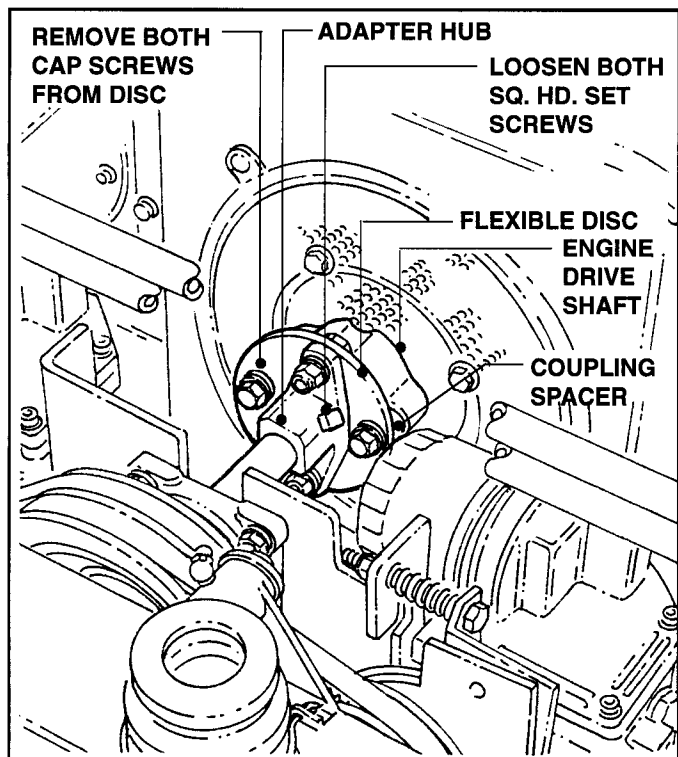

FIGURE 4.7
1. Loosen the two (2) Sq. Hd. Set Screws. See Figure 4.7.
2. Remove the two (2) Hex Hd. Cap Screws, Lock Washers and Flat Washers which secure the Flexible Disc to the Engine Driveshaft.
3. Slide Adapter Hub/Flexible Disc Assembly away from Engine. Place Coupling Spacers and Washers aside for reassembly. Refer to Figure 4.7.